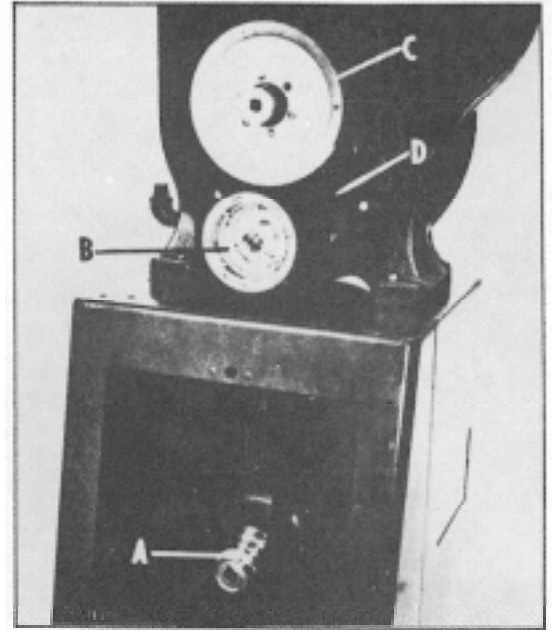

Fig. 8
5. Assemble motor pulley (A) Fig. 8, to the motor shaft as shown. When assembling the motor pulley (A) to the motor shaft it is necessary to use 3/4" to 5/8" reducing bushing on the motor shaft. NOTE: motors recommended for use with this band saw have 5/8" motor shafts. The motor pulley (A) Fig. 8 is supplied with a 3/4" bore to enable it to be interchanged with the gear box pulley (B) as explained later in this manual.
6 Using a Straightedge align the inside grooves of the pulleys (A) and (B) to the pulley (C) Fig. 8. The pulleys can be moved in or out on the shafts and also the motor mounting plate can be moved if necessary.
7. Assemble the large V-Belt (D) to the inside groove of the motor pulley (A) and to the large pulley (C). Assemble the smaller V-Belt to any one of the remaining three grooves of the motor pulley (A) and the corresponding groove of the gear box pulley (B) Fig. 8.